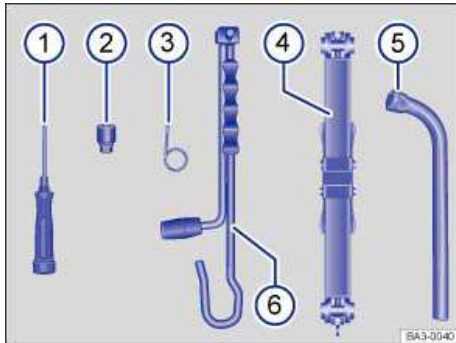

Fig. 206 Contents of the vehicle tool kit.
**Contents of the vehicle tool kit** ⇒ fig. 206
- (1) Screwdriver with a hexagonal socket in the handle for removing or inserting previously loosened wheel bolts. The screwdriver blade is reversible. The screwdriver may be stored under the lug wrench.
- (2) Adapter for anti-theft wheel bolts (if applicable). Volkswagen recommends that you always carry the adapter for the wheel bolts in the vehicle along with the vehicle tool kit. The **code number** of the wheel bolt lock is imprinted on the front of the adapter. If lost, a replacement adapter can be ordered using this number. Record the code number of the wheel bolt lock and store it separate from the vehicle.
- (3) Hubcap puller clips for removing hubcaps, wheel covers, or wheel bolt caps.
- (4) Jack. Before putting the jack back in the foam insert, be sure to completely crank the jack down to its original position.
- (5) Lug wrench.
- (6) Crank.